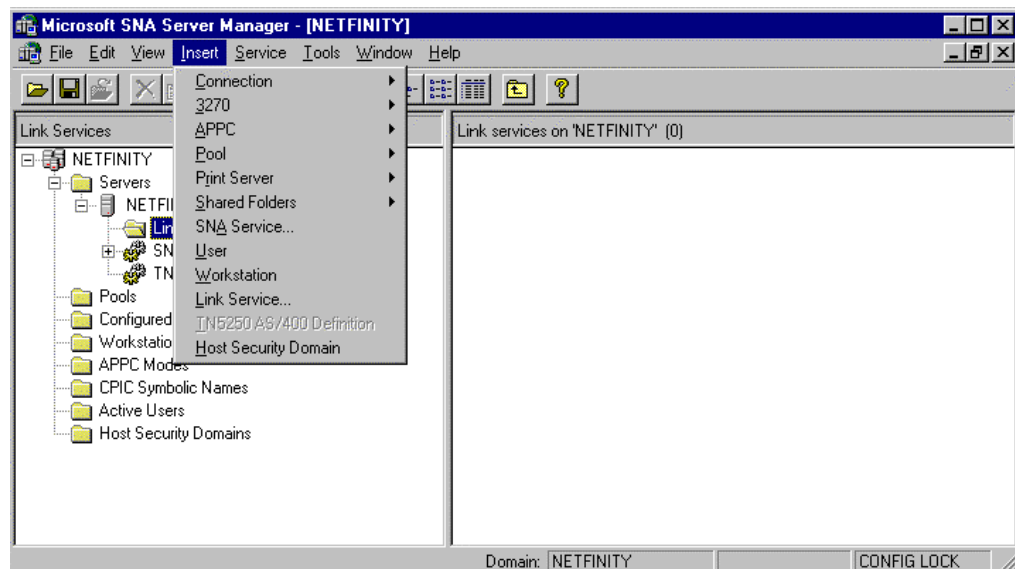

Figure 8-7. Insert Link Service
2. From the Insert pull down menu, select Link Service... (See Figure 8-7).